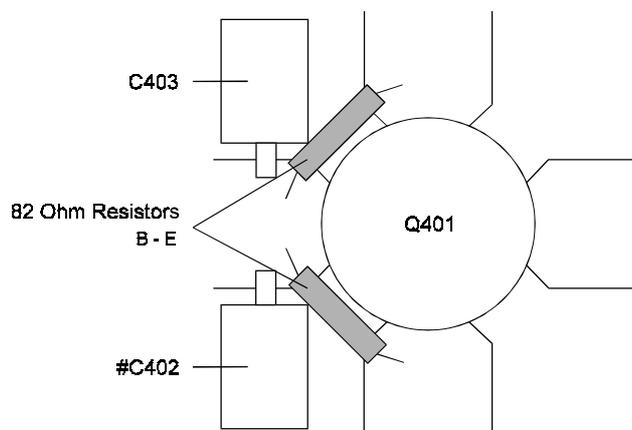

Figure 3
2. Fit two 82 Ohm SRF16 resistors across #C402 and C403 as illustrated in Figure 3: